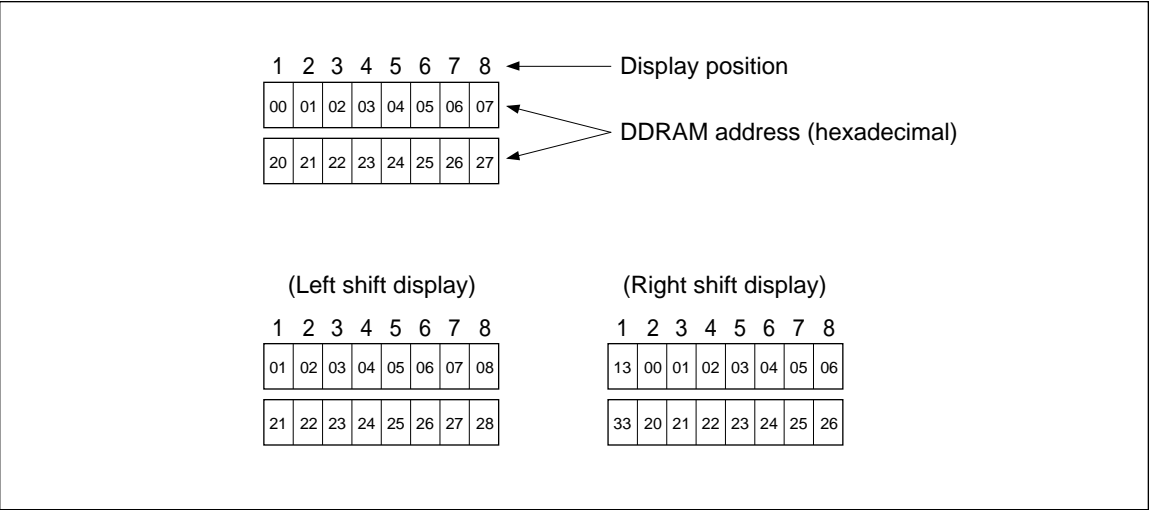

Figure 6 2-Line 8-Character Display (5-Dot Font) Using One HD66720
- Case 1: The first line is displayed from COM1 to COM8, and the second line is displayed from COM9 to COM16. Note that the last address of the first line and the first address of the second line are not consecutive. Figure 6 shows an example where a 5-dot font-width 8×2 -line display is performed using one HD66720.
- Case 2: Figure 6 shows an example where a 5-dot font-width 16×2 -line display is performed using one HD66720 and one extension driver.